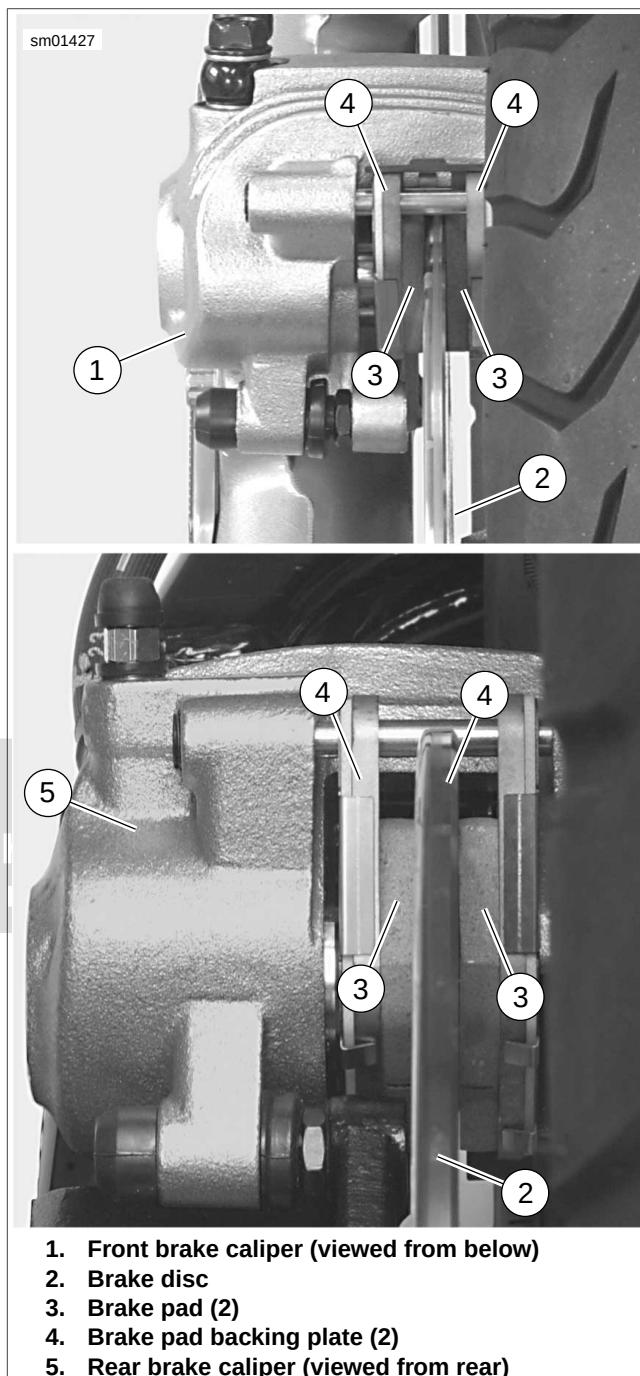

Figure 1-19. Brake Pad Inspection (Top: Front Brake, Bottom: Rear Brake)
See Figure 1-19. Replace brake pads (3) if brake pad friction material on either the front or rear caliper is worn to 0.04 in. (1.02 mm) or less above the backing plate (4). Always replace both pads in a caliper as a set. See 1.9 BRAKE PADS AND DISCS: XL MODELS, Brake Pad Replacement: Front or 1.9 BRAKE PADS AND DISCS: XL MODELS, Brake Pad Replacement: Rear.